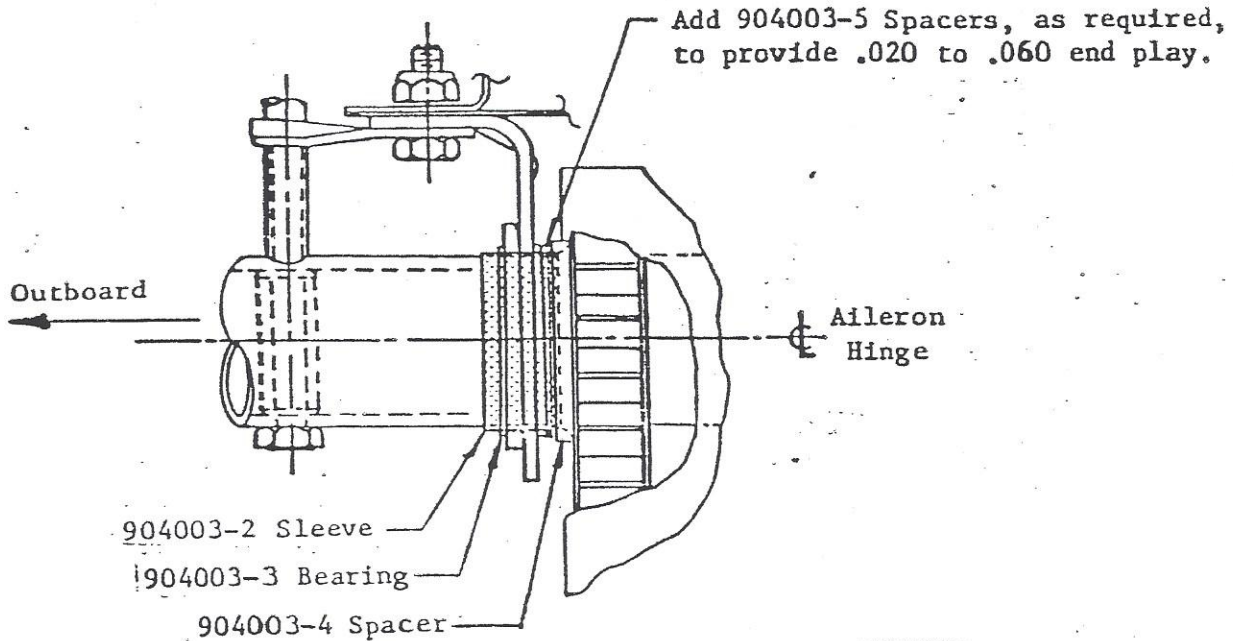

FIGURE 1. AILERON OUTBOARD BEARING REPAIR.
9. Slide the 904003-2 sleeves in place over the worn bearing surfaces and lock in place with "Loctite #601" or "#74 Nut Lock", or equivalent. (See Figure 1 and 2).
12. Install one 904003-4 spacer (Chamfered bore toward rib) on each end of the ailerons to replace the original spacers removed earlier. (See Figure 1 and 2).
14. Install ailerons in reverse of removal procedure. Replace any original thin (.020" thick), spacers between outboard aileron rib and bearing support bracket with #904003-5 spacers supplied in Kit. Add these spacers as required to maintain .020" to .060" aileron end play. (See Figure 1).